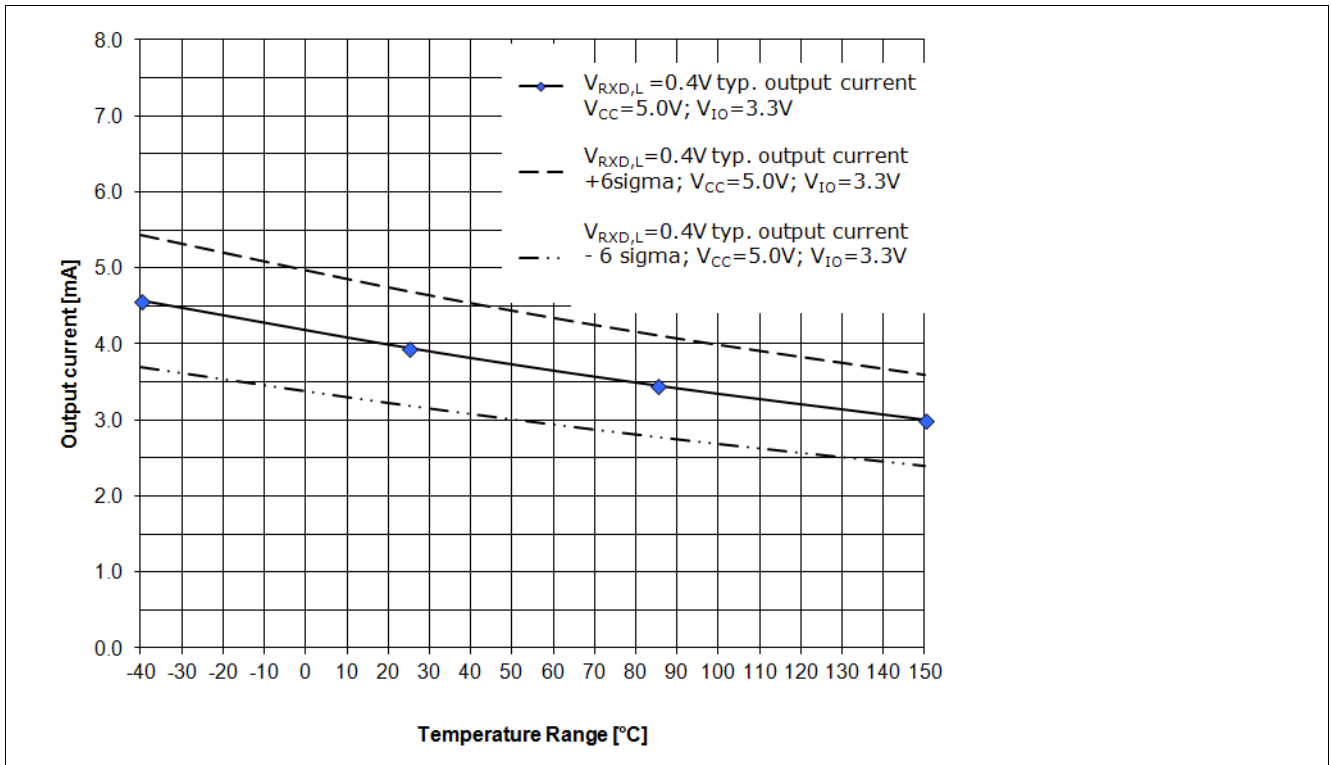

Figure 14 RxD Output driver capability for a logical “Low” signal  $V_{RxD,H}=0.4\text{ V}$ ,  $V_{CC}=5.0\text{ V}$ ,  $V_{IO}=3.3\text{ V}^1)$
The diagram in Figure 13 and the diagram in Figure 14 show the current capability of the RxD output pin depended on the chip temperature  $T_J$ . Figure 13 shows the current capability of the RxD output pin at a  $V_{IO}$  power supply of 5.0 V and Figure 14 shows the current capability of the RxD output pin at a  $V_{IO}$  power supply of 3.3 V.
- The curve “VRxD,H = 0.4 V; **typ. output current**; VCC = 5.0 V; VIO =3.3 V;” displays the typical output current at the RxD output pin of the TLE8250GVIO (see Figure 14).
- The curve “VRxD,H = 0.4 V; **typ. output current + 6 sigma**; VCC = 5.0 V; VIO =3.3 V;” displays the expected maximum value of the output current at the RxD output pin (see Figure 14).
- The curve “VRxD,H = 0.4 V; **typ. output current - 6 sigma**; VCC = 5.0 V; VIO =3.3 V;” displays the expected minimum value of the output current at the RxD output pin (see Figure 14).